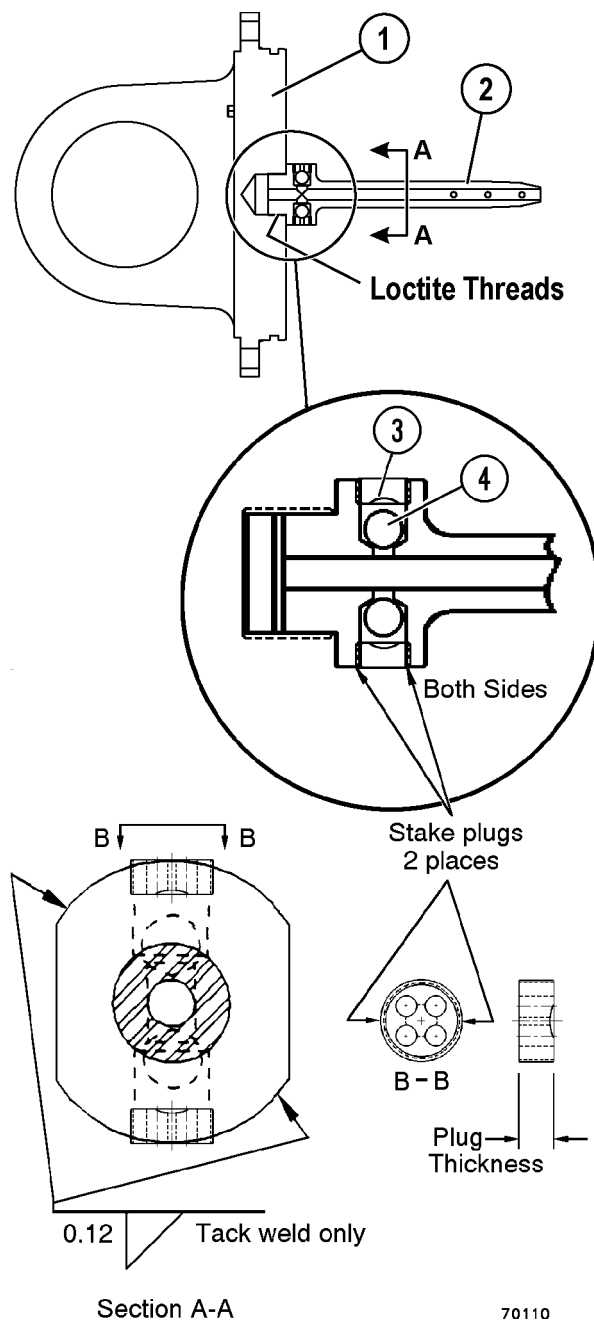

FIGURE 50-72. QUILL ASSEMBLY INSTALLATION
1. Inspect plugs (3, Figure 50-72) and check balls (4) in the quill to ensure that the plugs are tight and the ball seats are not damaged. Refer to "Installation of check balls and plugs in quill" on the next page.
2. Secure cap assembly (1) in a sturdy fixture. Ensure that the threads in the cap and the threads on the quill are clean, dry and free of oil and solvent.
3. Spray the mating threads of both cap assembly (1) and quill assembly (2) with LOCQUIC® Primer T (Komatsu part number TL8753) or equivalent. Allow the primer to dry for three to five minutes.
6. Tack weld the quill in two places as shown in Figure 50-72.